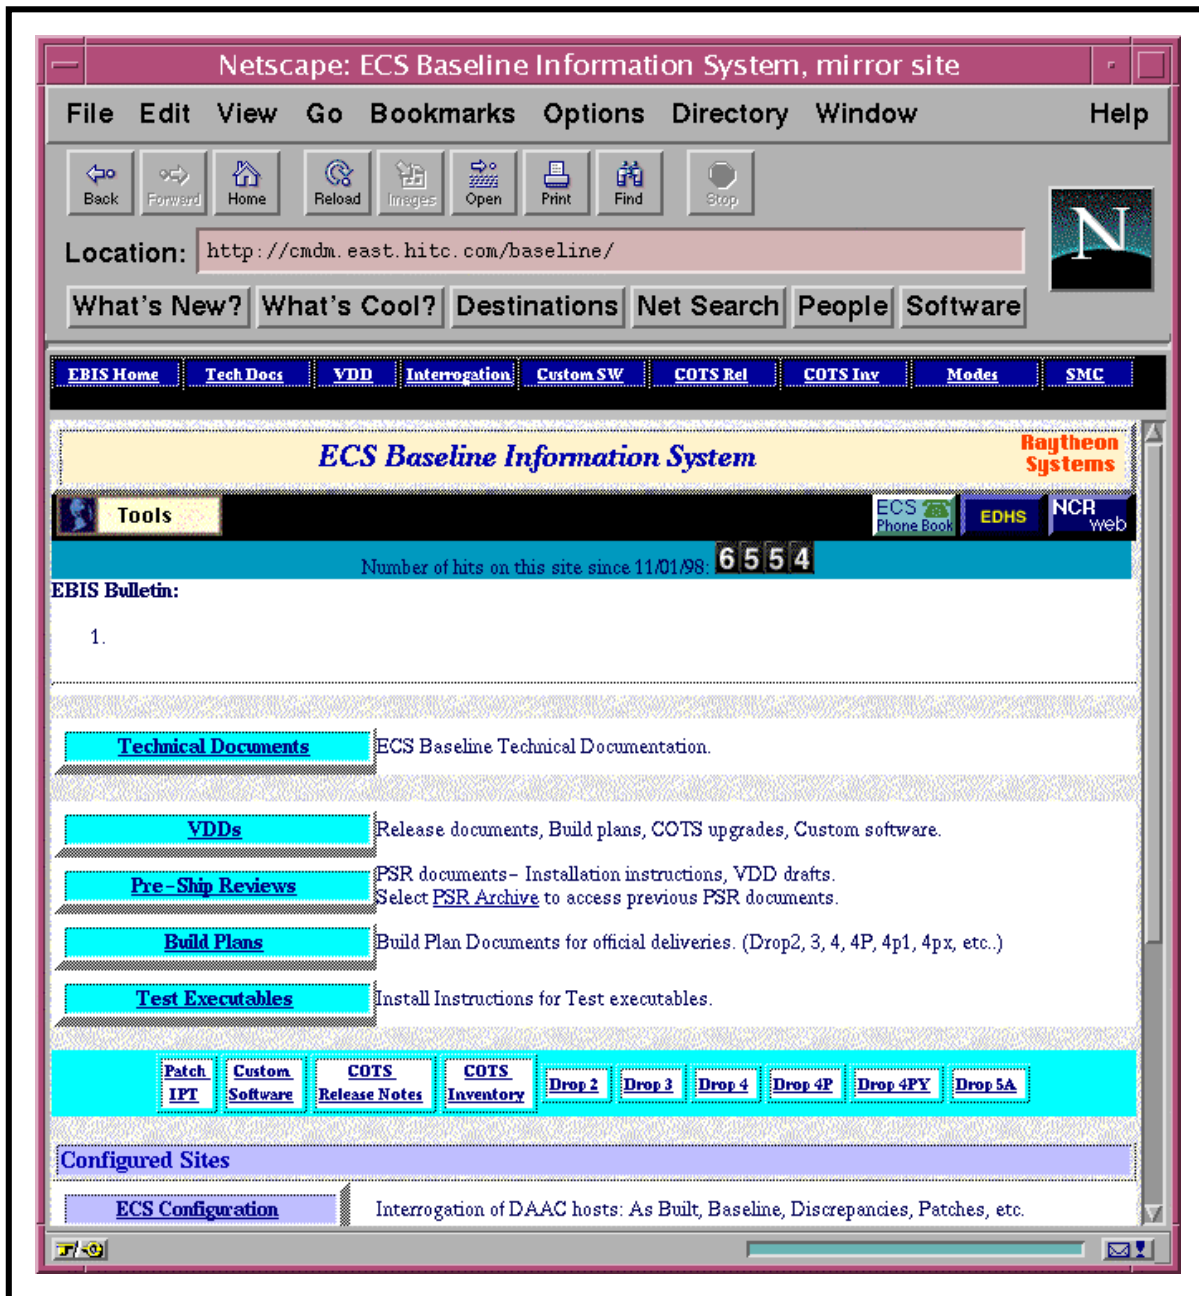

Figure 9. ECS Baseline Information System Web Page
- The **ECS Baseline Information System** web page (Figure 9) is displayed.